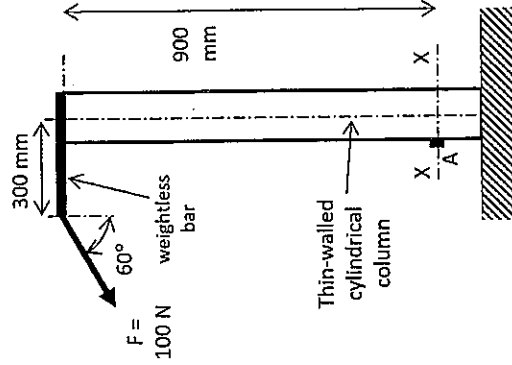

Figure 4
4. A thin-walled cylindrical column carries an offset load F supported by a weightless horizontal bar as shown in Figure 4. Point A is an infinitesimal element on the outer radius of the column at section X-X. The inner diameter of the column is 120 mm and the thickness is 1 mm. Given: $E = 200 \text{ GPa}$ and $\nu = 0.3$.